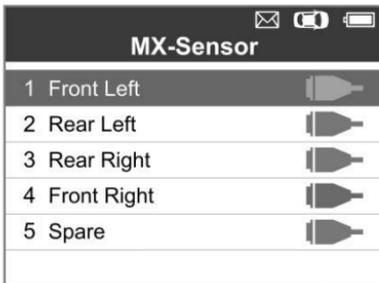
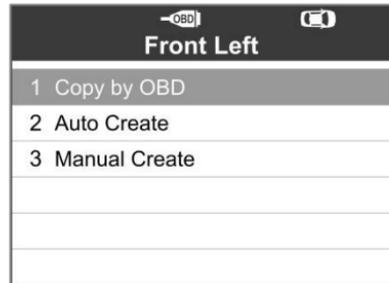

Figure 5.27
Figure 5.28
- 1) Follow the steps in **5.1 Auto Create** to select **MX-Sensor** to enter the Programming function. The OBD mark will appear on the right side of the screen (Figure 5.27). After selecting the specific wheel and pressing the **Y** button, the “Copy by OBD” option is available on the function menu (Figure 5.28).